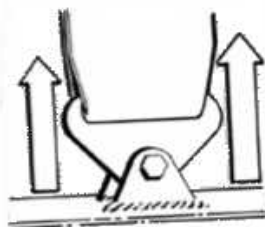

Figure D1
- 1) Mounting brackets should be installed in the direction of pull of the webbing under full load. Preferred mounting is with a double shear mount tabs with clearance to allow for the harness bracket to swivel. See Figures D1 & D2. All mounting brackets should be attached directly to the frame or chassis of the car. Refer to the General Mounting Instructions for mount bracket requirements. This requirement for mounting brackets applies to all bolt in type of mounts.